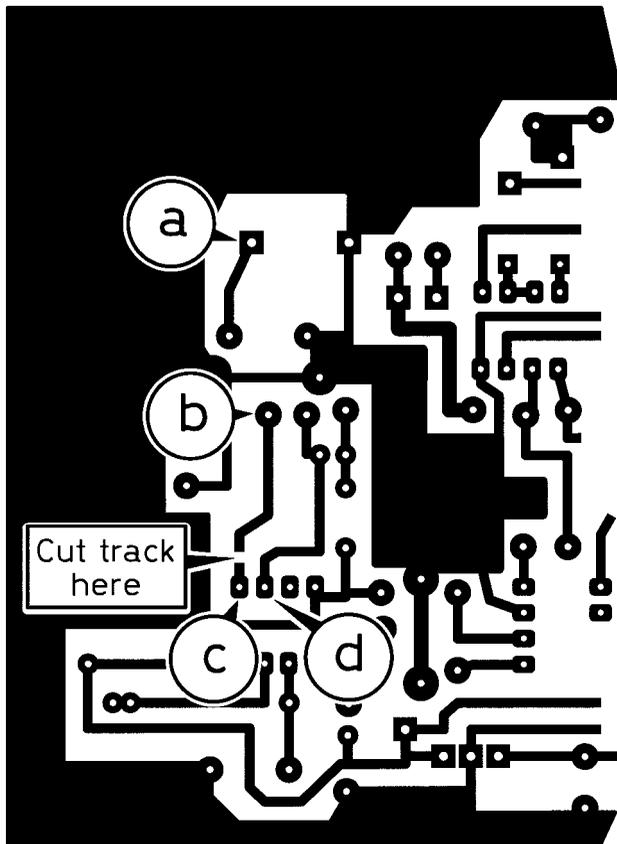

Figure 2 The underside of the PCB. Wires are connected from the switch and filter as shown
2. Then, using a sharp Stanley knife or scalpel, carefully cut the track on the PCB as shown in **Figure 2**, making a gap about 1 mm wide.
3. Using 10 cm lengths of different-coloured insulated wire, make the four connections, a, b, c and d, to the PCB, as shown in **Figure 2**.